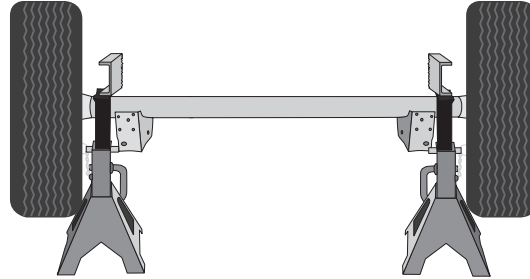

fig. 2
1. Jack up the front end of the vehicle and place safety stands under the frame. Disconnect the bottom shock bolts (Figure 2).